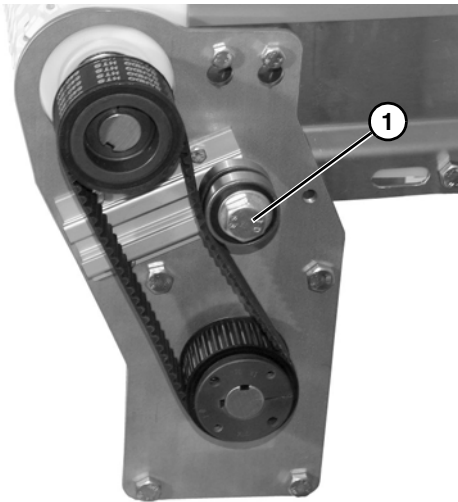

Figure 28
- Loosen tensioner (**Figure 28, item 1**).